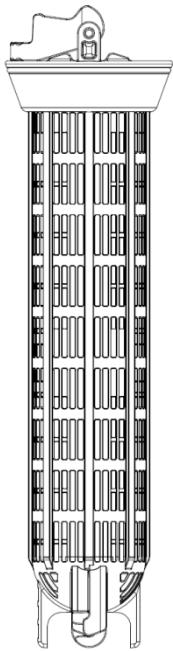

Fig. 11A: Basket ring at top of basket (side view)
- 2.5.1.7.2 Once slots in basket ring are aligned with runner ribs of basket, push down on basket ring to lower basket ring to bottom of basket. (See fig. 11A, 11B, and 11C.) [NOTE: Lowering basket ring will allow basket halves to separate from each other. Be careful not to allow basket to fall over as this could damage basket or injure operator.]